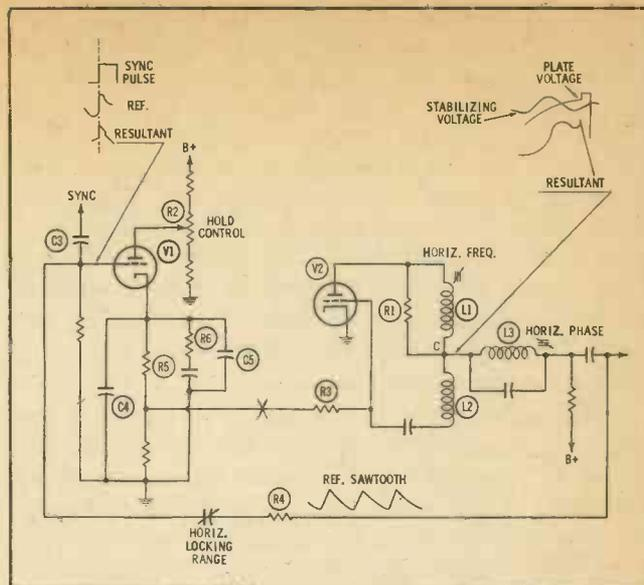
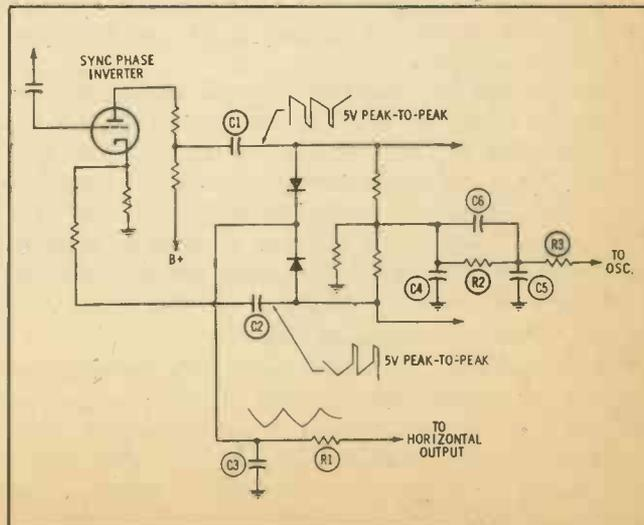

Fig. 4. Waveforms and controls in *Synchroguide* stage.
Fig. 5. An example of a dual-diode horizontal AFC circuit.
The AFC alignment of *Synchroguides* (Fig. 4) differs slightly from alignment of the cathode-coupled multivibrator and is performed as follows:
5. Adjust the lower slug in oscillator transformer L3 until the pattern shown in Fig. 4 can be seen on the scope. It may be necessary to readjust L1 at the same time if moving the slug in L3 throws the
**Scope at AFC.** Test Point 4 separates the AFC and the sync stages. In the diode type, a scope used on all the input waveforms to the AFC circuit will show if proper pulses are arriving at this circuit. The scope sweep should be set at 7875 cps to view two horizontal pulses. There may be two points at which sync pulses of opposite polarity are fed to the AFC. These pulses should be exactly the same in shape and in peak-to-peak voltage. If they are not the same, except for the reversal in polarity, coupling capacitors C1 and C2 from the AFC to the sync stages should be substituted (Fig. 5). It is also necessary to view the reference pulse from the oscillator or horizontal output, as the
In *Synchroguides*, Test Point 4 is at the grid of the control tube, and the waveform to be expected is shown in Fig. 4. It is difficult to recognize the parts of this waveform when viewing it under operating conditions, but any deviation from the ideal pattern will lead the technician to suspect R4, C3, or C6 of having failed.
If the waveforms at Test Point 4 are normal, there are still some parts in the control-voltage filter network which must be checked. These are C4, C5, C6, R2, and R3 in Fig. 5; and in the *Synchroguide* (Fig. 4), they are R5, R6, C4, and C5.
If the condition is intermittent and occurs after the receiver has been operating for a few hours, it is nearly always due to trouble in the horizontal oscillator tube. When replacement of this tube does not completely correct the symptom, alignment of the AFC will restore stability to the receiver. Often stability in *Synchroguides* can be restored by turning the tuning slug on phasing coil 3 one-fourth to one-half turn counterclockwise (Fig. 4).